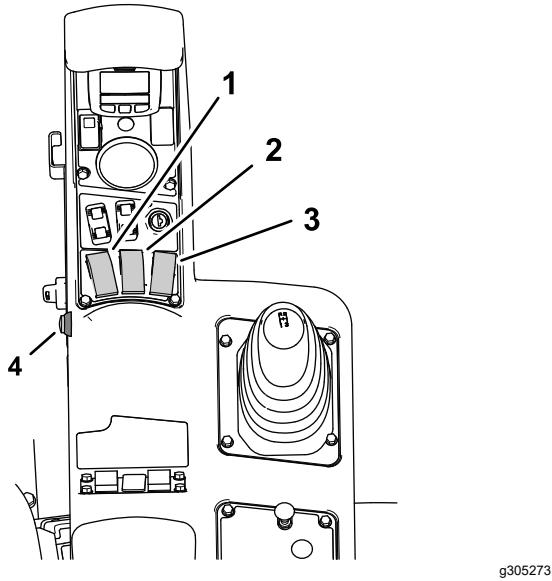
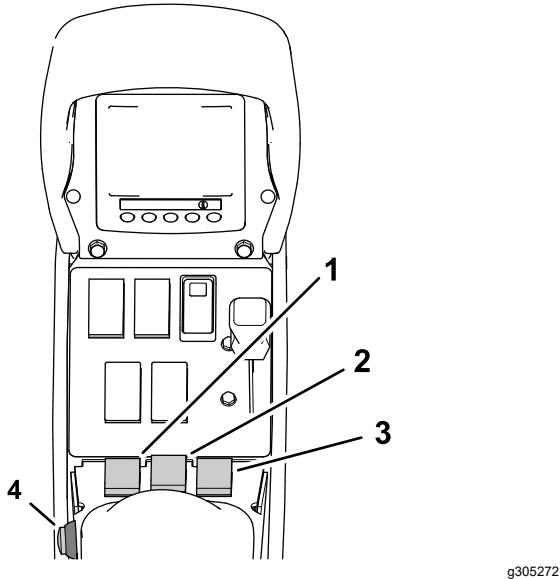

Figure 154
Figure 155
- Set the 3 section switches (located in the control console of the machine) to the ON position (Figure 154 and Figure 155).
- Press the master-section switch on the machine (Figure 154 or Figure 155).